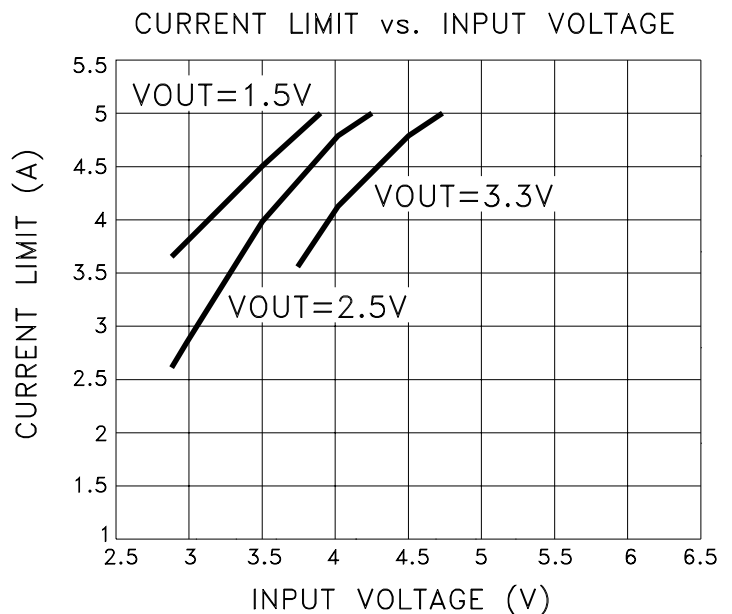

FIGURE 1
- ⑦ Output current limit is dependent upon the values of V_{IN} and V_{OUT}. See Figure 1 and typical performance curves.
- ⑧ Continuous operation at or above absolute maximum ratings may adversely effect the device performance and/or life cycle.
- ⑨ V_{IN} shall be as specified or V_{IN} Min, whichever is greater.
- ⑩ Not applicable when V_{OUT} < V_{IN} Min - dropout voltage maximum.
- ⑪ Consult factory for post radiation limits.
The MSK 5921RH current limit function is directly affected by the input and output voltages. Figure 1 illustrates the relationship between VIN and ICL for various output voltages. It is very important for the user to consult the SOA curve when using input voltages which result in current limit conditions beyond 4.5 Amps. When using input voltages which result in current limit above 4.5 Amps, the user must maintain output current within the SOA curve to avoid damage to the device. Note that 5 Amp maximum is due to current carrying capability of the internal wirebonds.